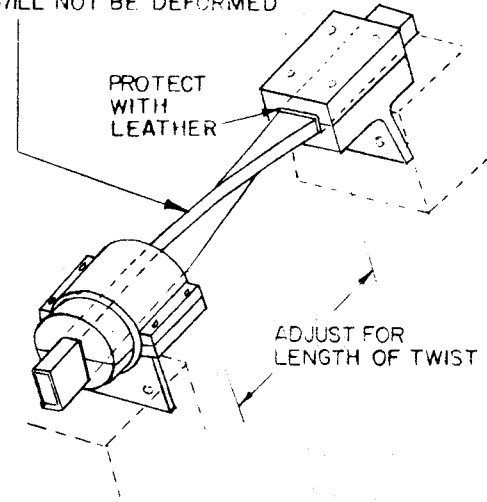

Figure 11-22. Twisting Machine Detail
- c. The waveguide is then inserted in the equipment as shown in Figure 11-22 and is twisted to the desired degree.